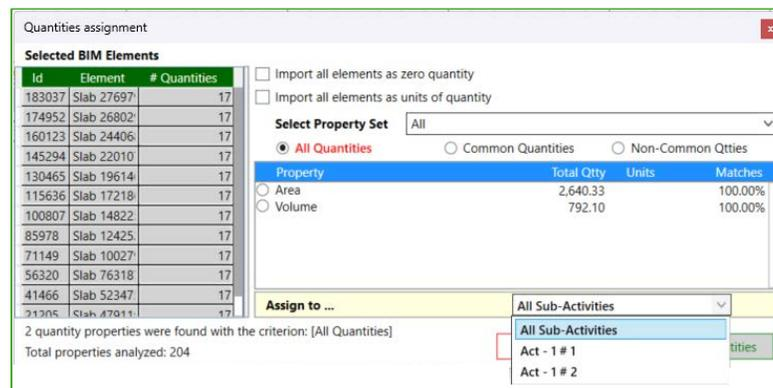

Figure 32 Assign quantity property to sub-activity
- **All / Common / Non-Common Quantities.** Allow filter the properties based on the matches of each property over the selected elements. The matches can be seen in the column 'Matches', as a percentage of selected elements that have each property. The elements that don't have the selected property will remain unchanged (Figure 32).